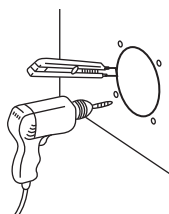

Fig.2
5. Cut out the marked area and drill the bolt holes. (Fig.2)